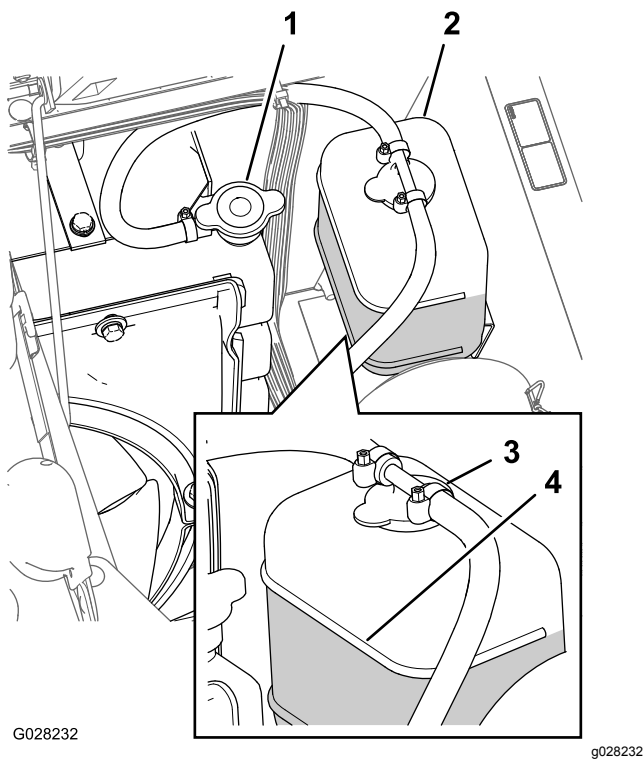

Figure 82
3. Carefully remove the radiator cap and the expansion-tank cap (Figure 82).
Note: The radiator should be filled to the top of the filler neck and the expansion tank filled to the Full mark on the tank (Figure 82).
5. If the coolant level is low, remove the expansion-tank cap and the radiator cap, and fill the expansion tank to the Full mark and the radiator to the top of the filler neck (Figure 82).
6. Install the radiator cap and the expansion-tank cap (Figure 82).
2. When the engine is cool, remove the radiator cap (Figure 82).
6. Remove the radiator cap (Figure 82).
8. Start the engine with the cap loosely on the radiator (Figure 82).
10. Once the coolant has warmed up, top off the coolant level to the sealing surface of the cap and tighten the cap (Figure 82).
11. Open the expansion-tank cap and fill the tank with coolant to the Cold level (Figure 82).